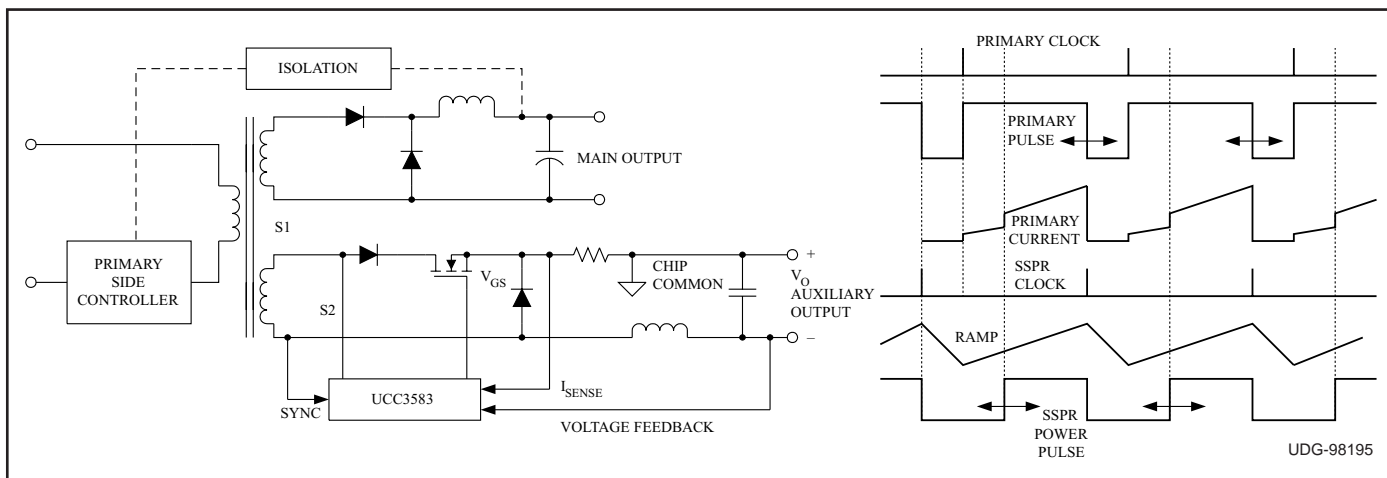
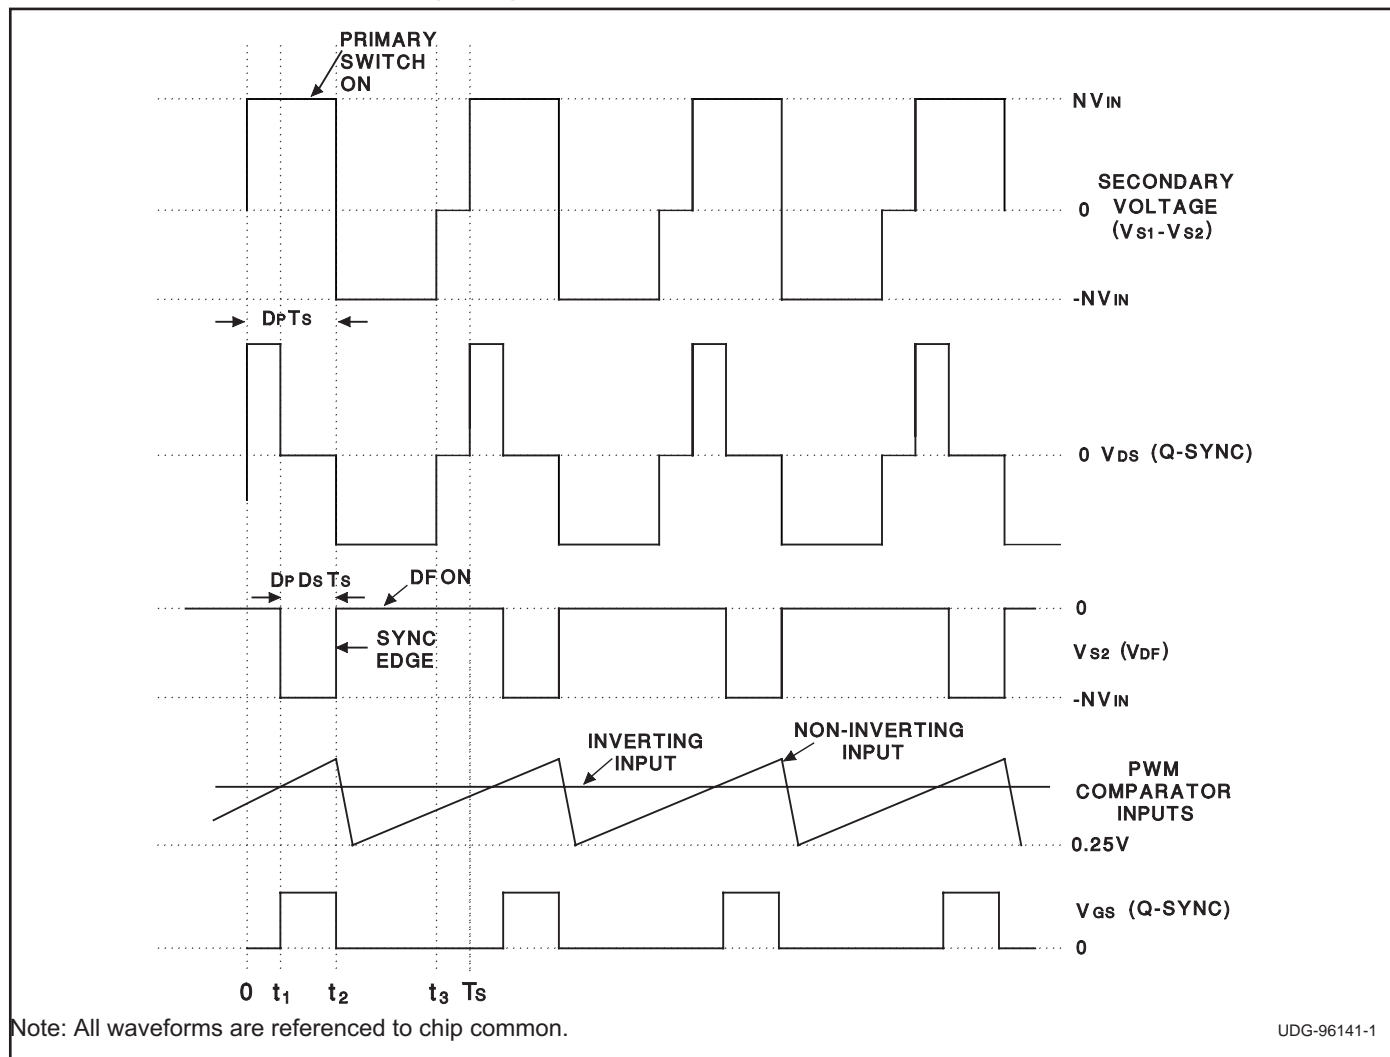

Figure 1. UCC3583 SSPR system application and typical waveforms.
Figure 2. Single ended post regulator waveforms.
**SYNC:** Synchronization input pin. It is connected to a signal representative of the secondary power pulse. One possible implementation is to use a resistive divider between terminal S2 of the secondary winding shown in Figure 1 and REF for generating the input to the SYNC pin. The synchronizing comparator is referenced to 0.5V and has  $\pm 500\text{mV}$  of hysteresis. The trip levels are approximate 1.0V and 0.0V. The designer should prevent the SYNC pin from exceeding 0.3V below ground as this will turn on the ESD diode.
and terminations easier to implement. Typical set-up and circuit waveforms of the UCC3583 system application are shown in Figure 1. Figure 2 shows waveforms for a single ended output rectifier application of the UCC3583 shown on page 1. The UCC3583 can also be used in half bridge rectifier applications as shown by the circuit and waveforms depicted in Figures 3 and 4. Referencing the IC to the positive output terminal creates a requirement for a floating bias voltage for the IC which can be referenced to the same positive voltage terminal. Possible implementations of deriving the floating bias voltage are shown in Figure 5.